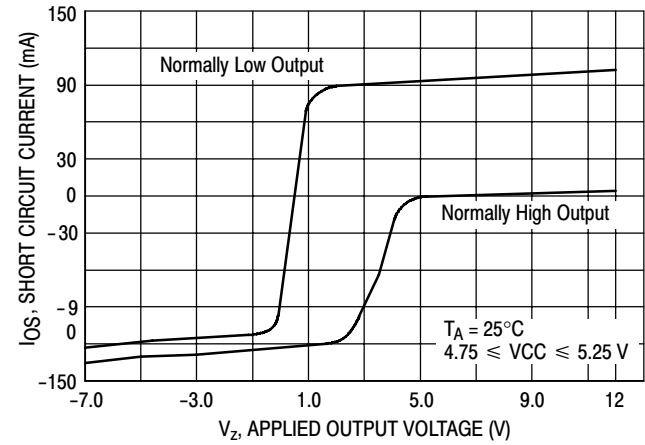

Figure 16. Short Circuit Current versus Common Mode Voltage
The two outputs of a driver are always complementary. A “high” output can only source current out, while a “low” output can only sink current (except for short circuit current – see Figure 16).
- Current limiting is provided at each output, in both the source and sink direction, for shorts to any voltage within the range of 12 V to -7.0 V, with respect to circuit ground (see Figure 16). The short circuit current will flow until the fault is removed, or until the thermal shutdown circuit activates (see below). The current limiting circuit has a negative temperature coefficient and requires no resetting upon removal of the fault condition.